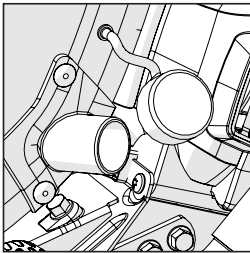

FIG. 13
- Remove the rubber cap from the dust extraction port (Fig. 13) and safely store it for future reinstallation.